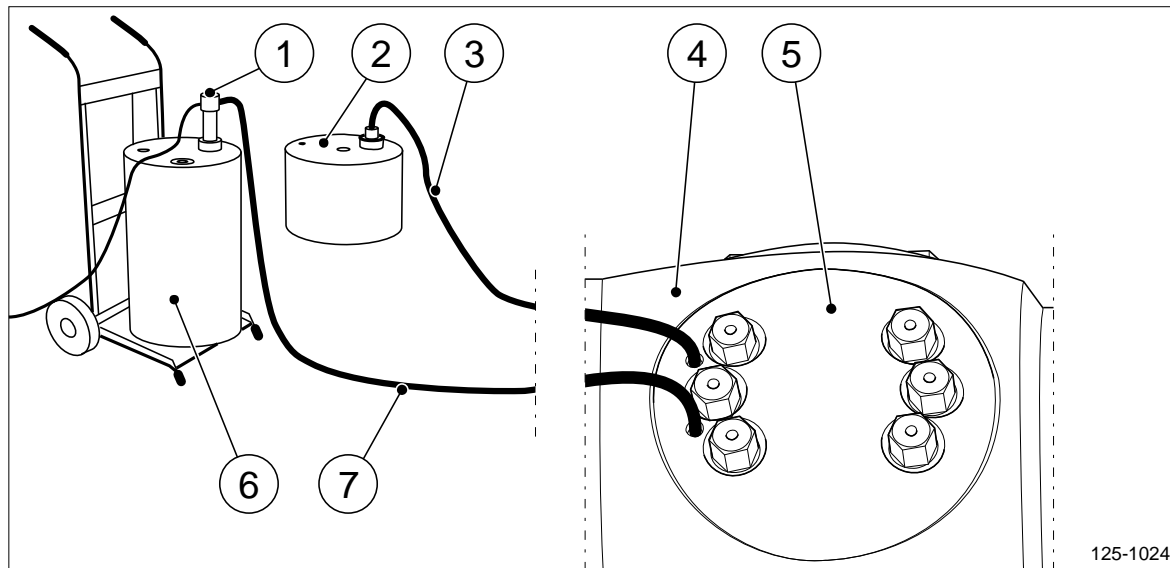

Figure 7 Example of flushing equipment.
6. Prepare the flushing equipment (see figure 7). Make sure all hoses are properly connected to the pump and collecting container.
22. Start to flush the blade flange with the oil pump unit (pos 1, figure 7). Use minimum pressure value at first. Slowly increase the pressure until grease and then flushing oil starts to evacuate through the hole.
23. When flushing oil starts to evacuate to the excessive oil container (pos 2, figure 7) the flushing of the blade flange is complete.